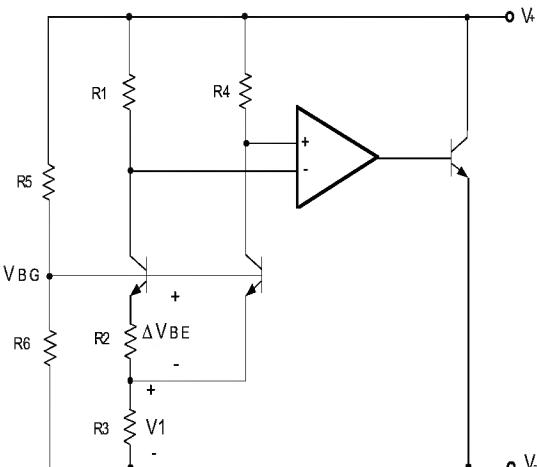

Figure 7. AD1586/7/8/9 Simplified Schematic
The AD 1586/7/8/9 family uses the "bandgap" concept to produce stable, low-temperature coefficient voltage references which are suitable for high accuracy data-acquisition components and systems. This family of precision references makes use of the underlying temperature characteristics of a silicon transistor's base-emitter voltage in the forward-biased operating region. Under this condition, all such transistors have a  $-2 \text{ mV}/\text{C}$  temperature coefficient (TC) and a  $V_{BE}$  that, when extrapolated to absolute zero,  $0 \text{ K}$ , (with collector current proportional to absolute temperature) approximates the silicon bandgap voltage. By summing a voltage that has an equal and opposite temperature coefficient of  $+2 \text{ mV}/\text{C}$  with the  $V_{BE}$  of a forward-biased transistor, a zero TC reference can be developed. In the AD 1586/7/8/9 simplified circuit diagram shown in Figure 7, such a compensating voltage,  $V_1$ , is derived by driving two transistors at different current densities and amplifying the resultant  $V_{BE}$  difference ( $\Delta V_{BE}$  - which has a positive TC). The sum ( $V_{BG}$ ) of  $V_{BE}$  and  $V_1$  is then scaled by the  $R_5/R_6$  resistor network to produce stable reference voltage outputs of  $2.5\text{V}$ ,  $3\text{V}$ ,  $4.096\text{V}$ , and  $5\text{V}$ . To ensure that the bandgap cell and resistor network maintain their required current levels, a buffer amplifier drives an output transistor to sink any excess current.